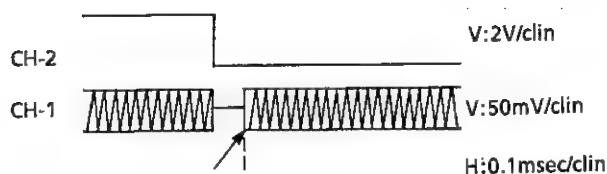

Figure 2-8.
- 3. Turn HiFi head switching pulse adjustment potentiometer R1703 fully counterclockwise to obtain the waveform as shown in Figure 2-8.
- 5. Adjust R1703 so that the trailing edge of the head switching pulse aligns at 50 μsec to the left of the middle position between point A in Figure 2-8 and point B in Figure 2-9.